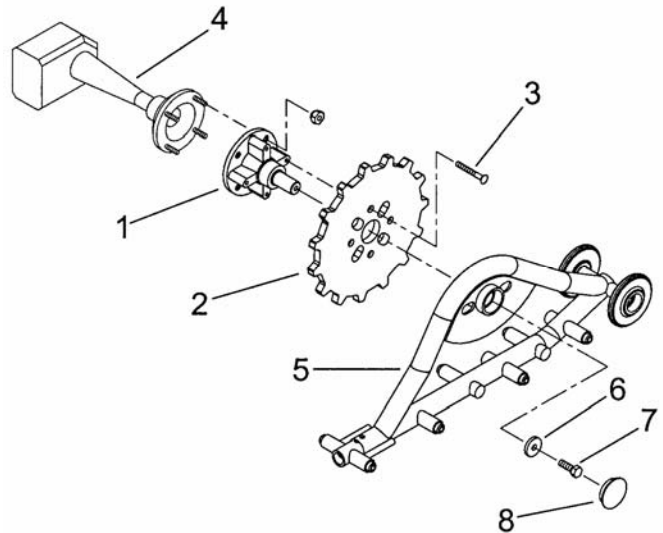
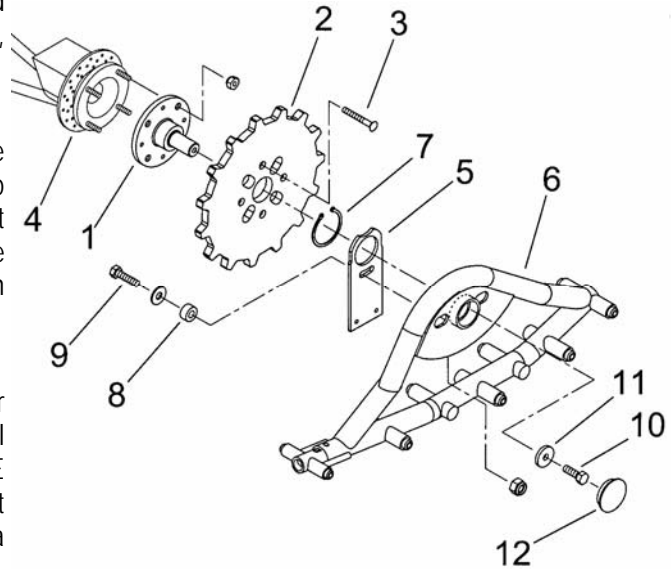

FIGURE 1
FIGURE 5
3. Install the axle of the track (FIGURE 1, # 1) to the toothed wheel (FIGURE 1, # 2) with the 4 socket cap screws 3/8" NC x 1 1/4" LG (FIGURE 1, # 3) LG and put some anti-slip ( Loctite ). Then, fit the two parts to the wheel hub of the vehicle (FIGURE 1, # 4) and tighten firmly the wheel nuts.
4. Fit the tubular frame (FIGURE 1, # 5) to the track axle (FIGURE 1, # 1) screw in the hex. 1/2" NC x 1 1/4" LG bolt (FIGURE 1, # 6) while fitting in the special washer (FIGURE 1, # 7) put some anti-slip ( Loctite ) and tighten firmly (150 pounds torque); then plug the tubing with the plastic cap (FIGURE 1, # 8).
2. Install the axle of the track (FIGURE 5, # 1) to the toothed wheel (FIGURE 5, # 2) with the 4 socket cap screws 3/8" NC x 1 1/4" LG (FIGURE 5, # 3) and put some anti-slip ( Loctite ). Then, fit these two parts to the wheel hub of the vehicle (FIGURE 1, # 4) and tighten firmly the wheel nuts.
3. Fit the retaining plate (FIGURE 5, # 5) to the tubular frame (FIGURE 5, # 6) fastening it with the external snap-ring (FIGURE 5, # 7). Then fit the bushing (FIGURE 5, # 8) to the retaining plate (FIGURE 5, # 5) and fasten it with an hex. 3/8" NC x 1 1/4" LG bolt (FIGURE 5, # 9), a 3/8" flat washer and a 3/8" nylon nut.
4. Fit the tubular frame (FIGURE 5, # 6) to the track axle (FIGURE 5, # 1) and screw in the hex. 1/2" NC x 1 1/4" LG bolt (FIGURE 5, # 10) while fitting in the special washer (FIGURE 5, # 11). Put some anti-slip ( Loctite ) and tighten firmly (150 pounds torque); then plug the tubing with the plastic cap (FIGURE 5, # 12).